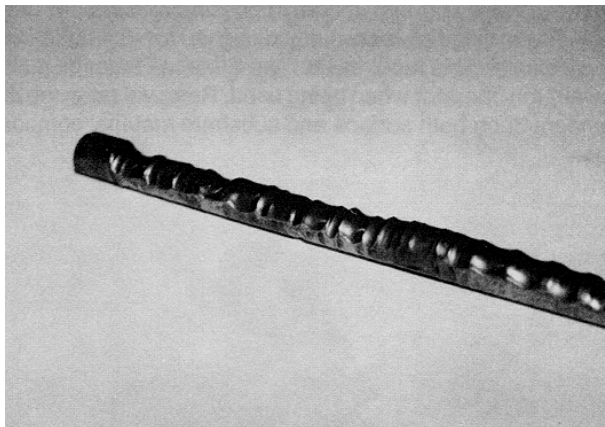

FIGURE 9
1) Inadequate free play exists between the flails/spacer washers and the support plates of the flail drum. If the flails and spacer washers do not have complete freedom of movement, they will not be capable of properly rotating about the flail drum rod. The result is rod wear confined to two locations that are usually 180 degrees apart. FIGURE 9. Variances in flail and spacer washer thicknesses affects free play when assembled on the drum. Because free play is also created during the planing process due to actual flail and spacer washer wear, a certain amount of "tightness" can sometimes be tolerated without affecting the service life of the drum rods or flails. The specific amount of "tightness" can usually be determined through trial and error. If the flails and spacer washers appear too tight on the drum, remove an appropriate flail or washer and reassemble the drum. If a short, operational test indicates normal component wear patterns, the apparent problem has been solved. A general rule for consideration: it is better to have the flails and spacer washers a "little too loose" on the drum than a "little too tight".